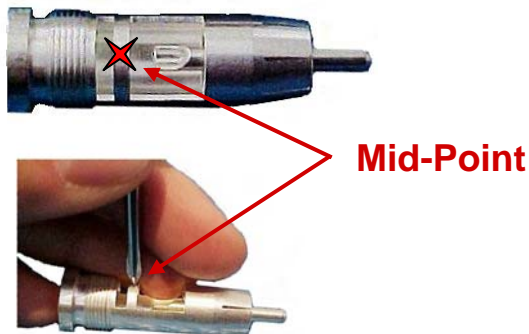

Fig.6: Place Phillips Screw Driver on mid-point of Bridge
7. Bend the bridge to accept twisted shield by placing Phillips screw driver on mid-point of Bridge (**Fig. 6**)